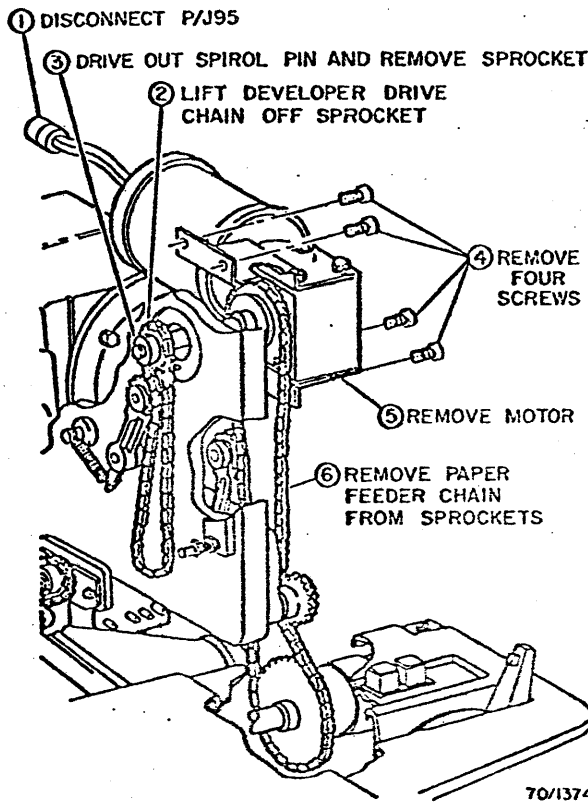

Fig. 3-11. Developer and Paper Feeder Drive Motor
2. Follow procedure given in Fig. 3-11.